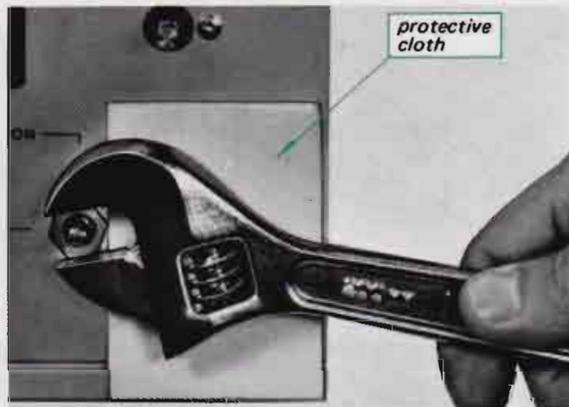

Fig. 2-4. Hex nut removal
- Remove the two screws ($\oplus B3 \times 6$) and two hex-nuts securing the front panel to the front sub-chassis as shown in Fig. 2-3. Place piece of cardboard or cloth between the wrench and front panel to avoid marring the panel as shown in Fig. 2-4. Now the front panel is free for servicing.